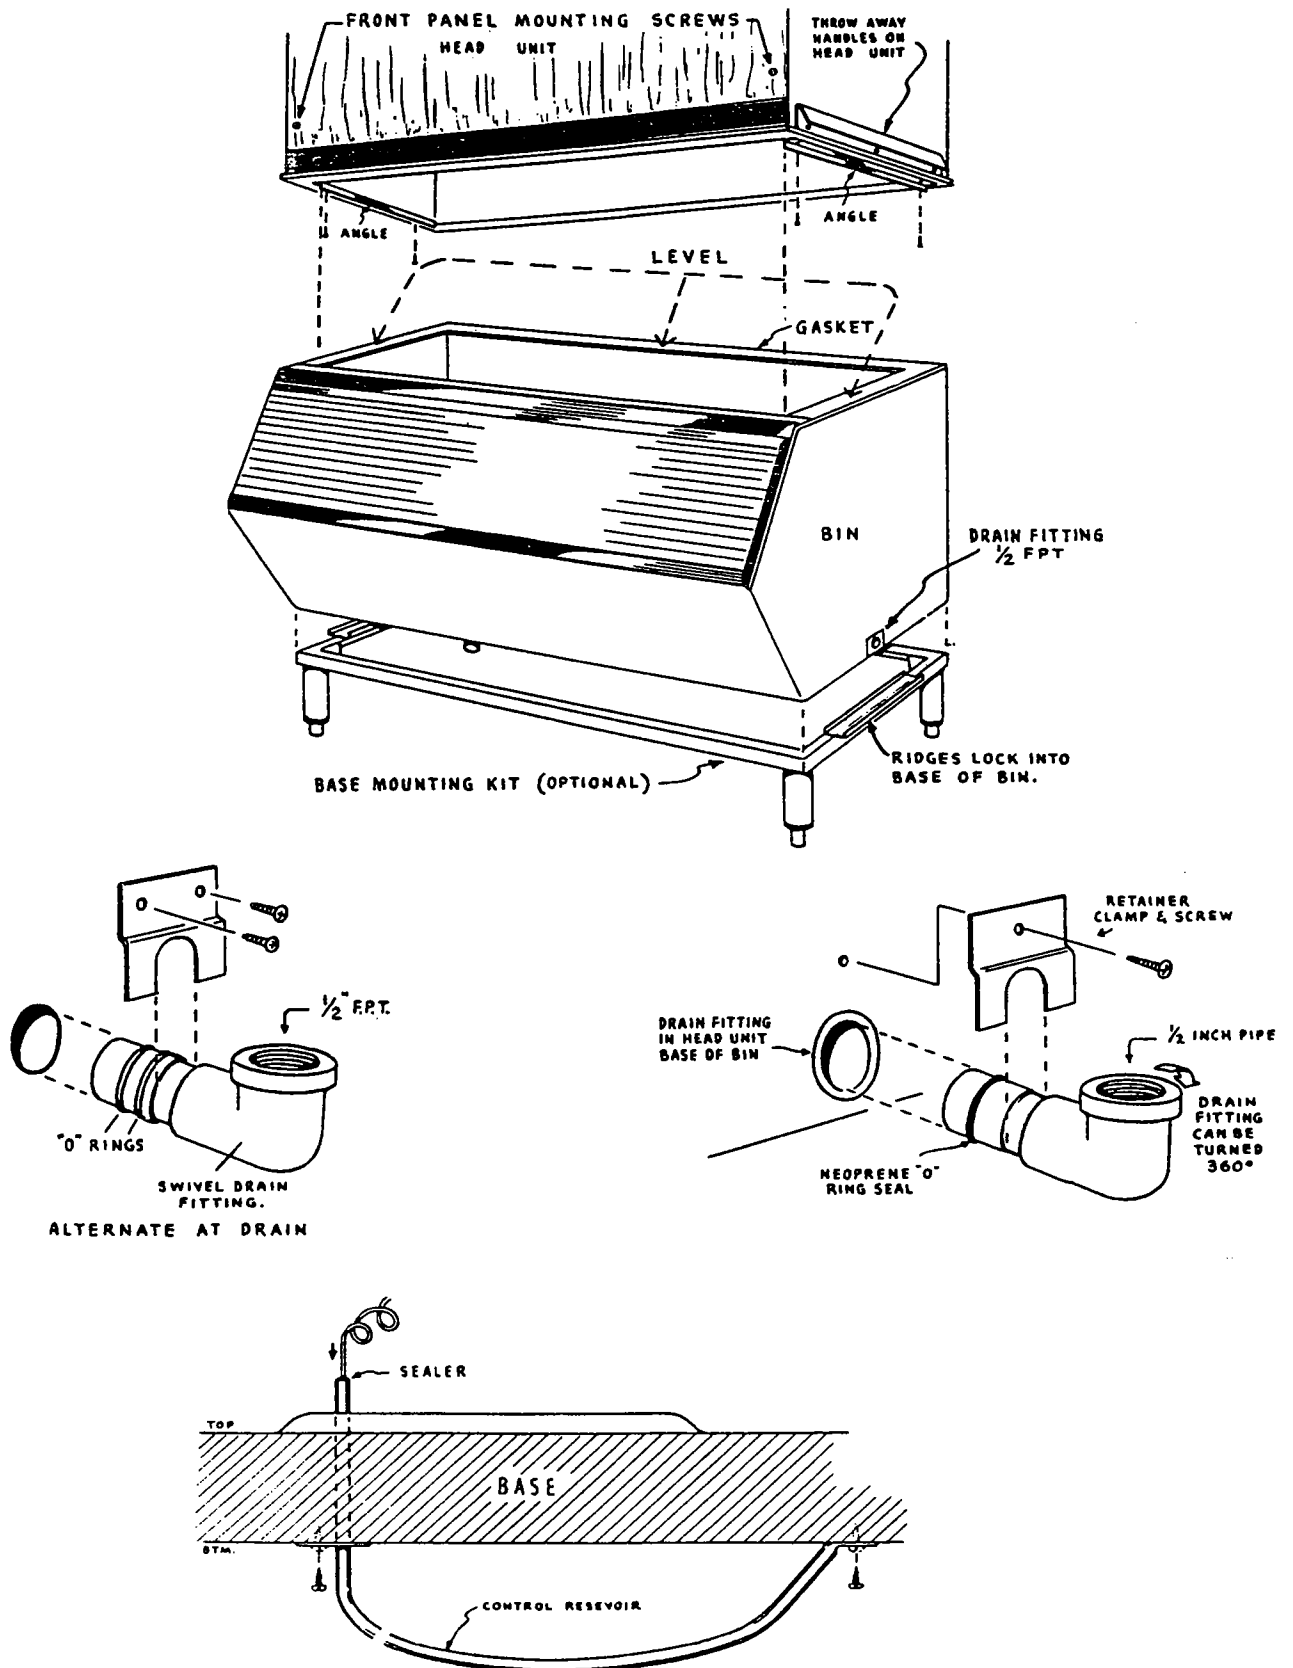

FIG. 2
## INSTALLING BIN (Fig. 2)
## INSTALLING HEAD UNIT (Figs. 2 and 3)
Carefully clean the gasketed surfaces on the top of the bin. Remove the bolts securing the head unit to the base. Peel off the polyethylene film used to protect the underside of the head unit base, and set the head unit in place on the bin as illustrated in Fig. 2, making sure that cube chute opening is clear. Use screws furnished to attach the two (2) positioning angles found nailed to the skids, or packed inside, to the underside of the head unit base. **Angles are correctly installed when the front edges of head unit are 1 in. from front of the bin.** If angles are installed before setting the head unit on base, do not set unit on bin with angles resting on front rail. The rail will bend and disrupt door seal.
Insert reservoir for bin thermostat through the hole in the base unit and secure with screws as illustrated. Straighten the coiled thermostat capillary and insert in reservoir until it stops. See Fig. 2.
Fitting may be either copper with one (1) Neoprene "O" ring, or brass with two (2) Neoprene "O" rings, and is installed by wetting "O" ring and pushing fitting into drain. Secure with two screws. See Fig. 2. Use standard pipe fittings to connect to the 1/2" FIP (90° ell) connectors provided or copper sweat joints to connect to optional copper tee vented connector. NOTE: Remove fittings and "O" rings before making sweat connections. The fittings provided rotate 360 degrees without removing the screw making it simple to connect drain lines. It is essential that drain connections be made so waste water can't back up into the head unit or bin. On water cooled models a separate connection is provided for discharging condenser water. All connections are labeled. (See Figs. 4 and 11) We recommend covering all drains with cork insulating tape to prevent sweating.